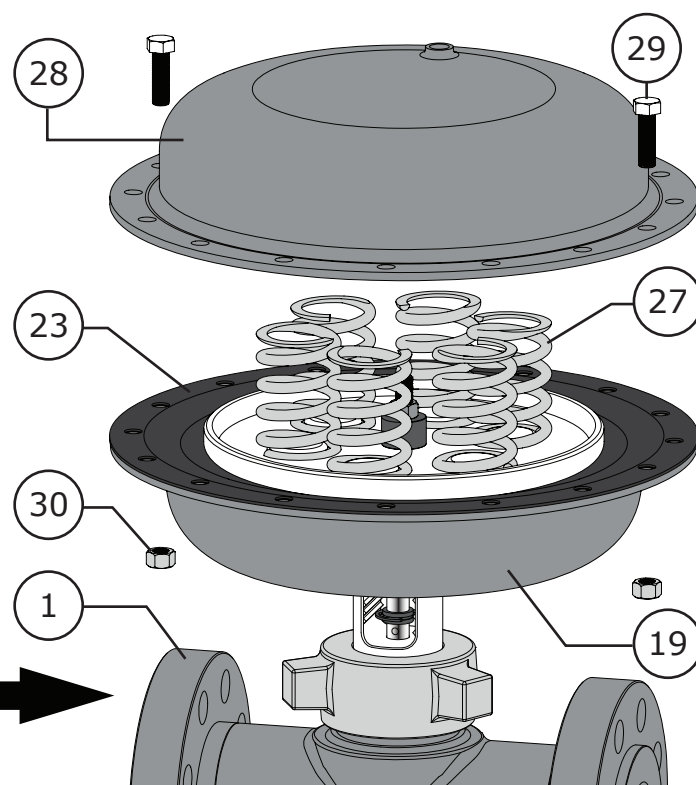

Figure 11 Actuator Disassembly (Steps 1 and 2, Page 10)
- 2 Slowly loosen the two **long** (1-1/4") cap screws (Key 29) and nuts (Key 30) in an alternating pattern. During removal, try to keep the upper casing (Key 28) level until the springs are no longer under compression, then completely remove the long cap screws, nuts, and upper casing. Refer to Figure 11.